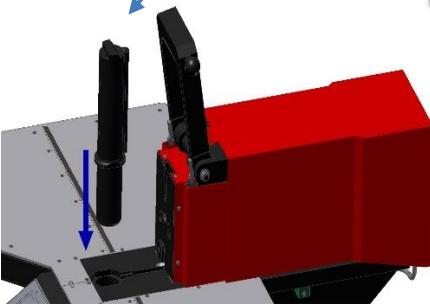
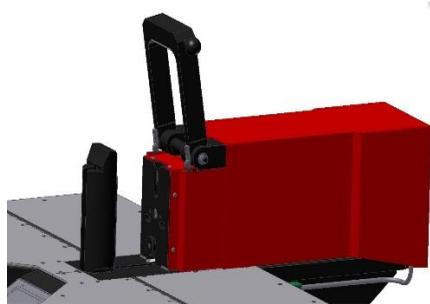

Fig. 35.
Fig. 36.
- Slide the cutting mandrel into the hole in the body (fig. 35) (fig. 36).